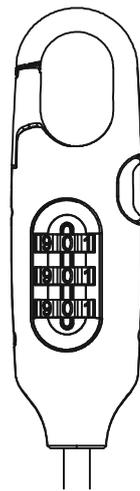

Fig. 9
a. Turn the Dials and align the factory preset combination 0-0-0 with the Guide Line. (Fig. 9)